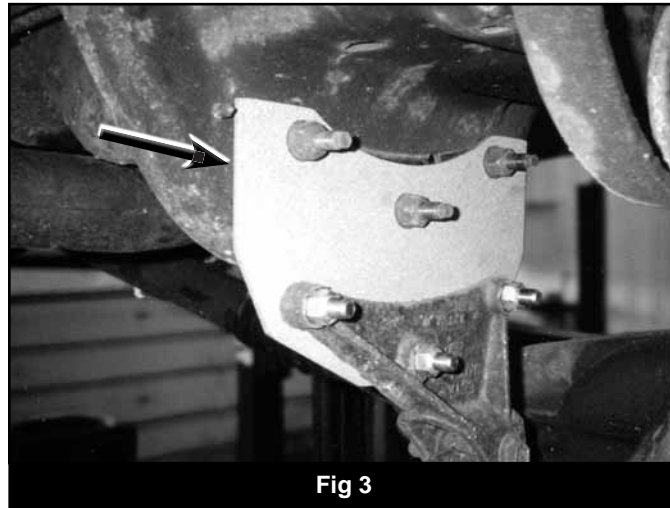

Fig 3
14. Install the track bar relocation bracket to the frame using the original track bar bracket mounting holes with three 1/2" x 2" bolts and nuts. Attach the OE track bar bracket to the relocation bracket with the OE hardware (Fig. 3). Torque to 75 ft-lbs.